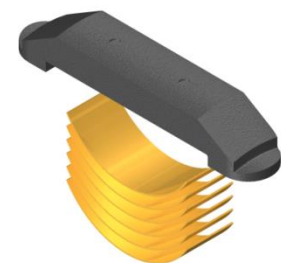

Fig. 3
**NOTE6:** Install six (6ea) springs per block (Fig. 3).